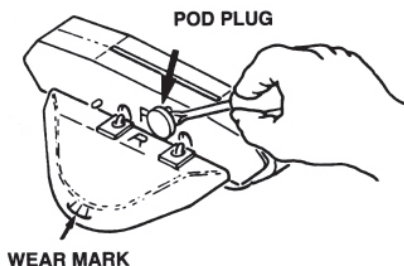

Figure 9
- 1. Check the condition of the “shoes, wings and flaps” periodically.** The shoes and wings have wear indicators on their sides and should be checked occasionally to determine if they need replacing. The shoe wear indicator is a line on the side of the shoe that appears as a difference in texture. When this texture difference is no longer visible at the bottom of the shoe when viewed from either side, the shoes must be changed (*see Figure 8*). Also on the side, the wing wear indicator is a horizontal line which has three (3) vertical lines above it. When you can no longer see the horizontal line, the wings must be changed (*see Figure 9*). The Hayward **Navigator Tune-Up Kit** is available from your dealer. Shoes, wings and flaps may also be purchased separately.
- Using a screwdriver, remove the plugs from both pods (*see Figure 9*).